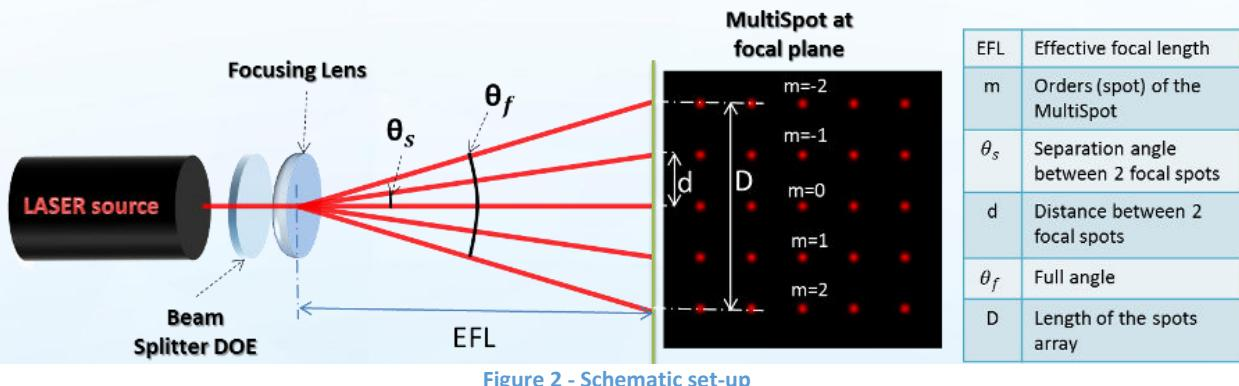

Figure 2 - Schematic set-up
- In order to achieve well-focused spots at a certain distance, one needs to add a focusing lens after the DOE, as shown in figure 2 below.